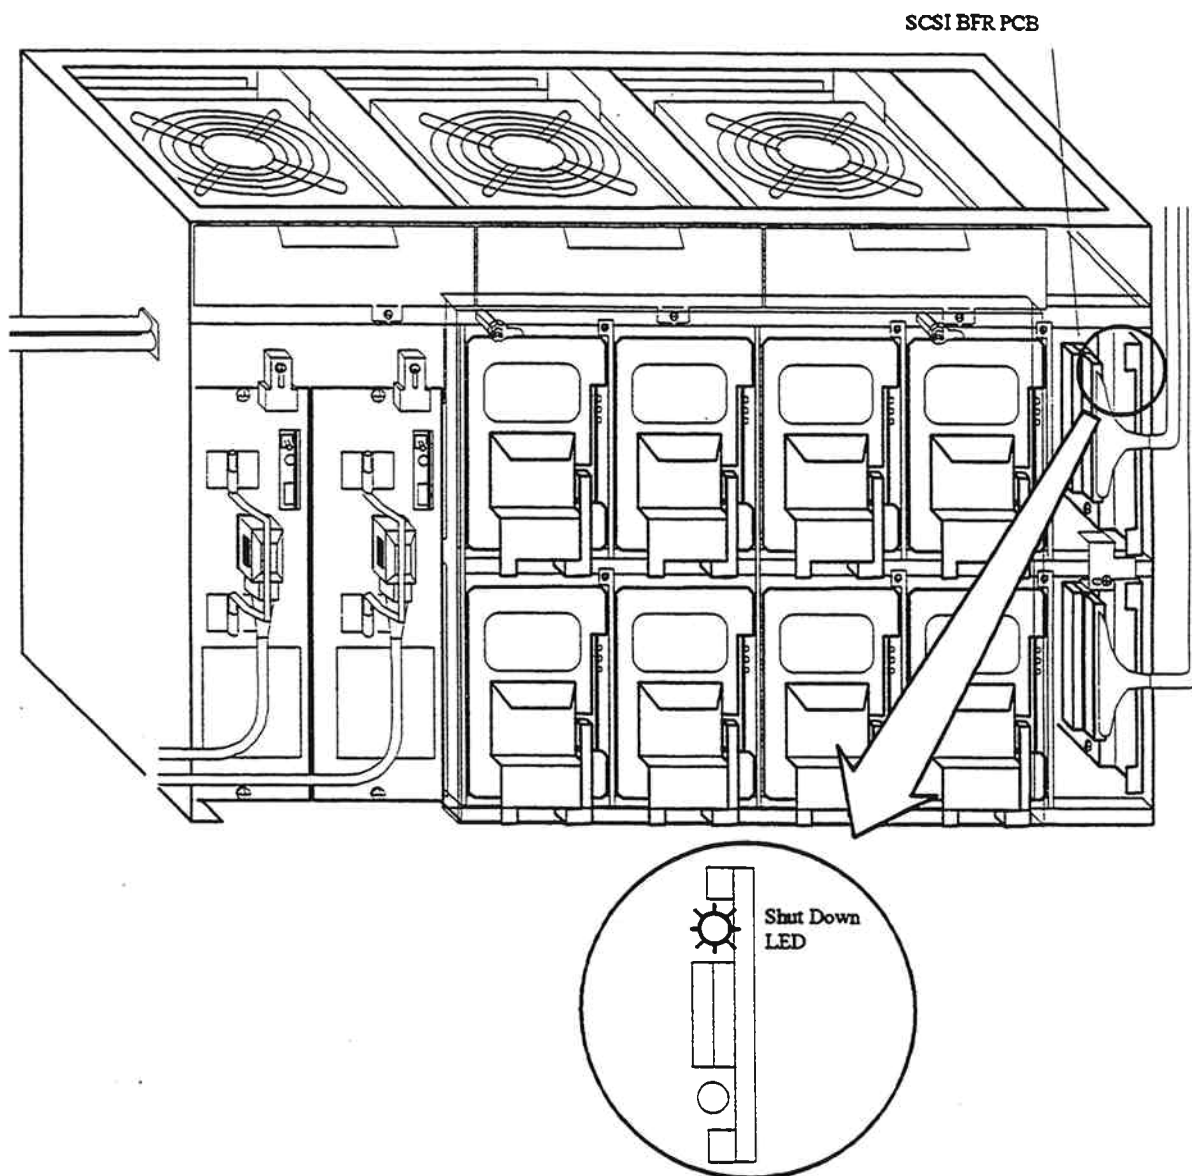

Fig. 3.3.13.2.4-3 Confirmation of the Shut Down LED Light
4. Connect the SCSI interface cables to the SCSI BFR PCBs in the first DKU chassis referring to figures 3.3.13.2.4-4 and 3.3.13.2.4-5.